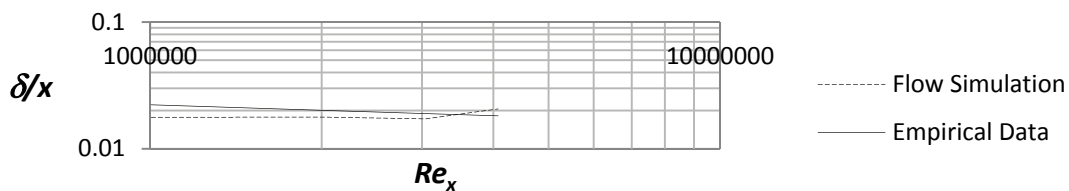

Figure 2.30b) Boundary layer thickness for turbulent boundary layers at  $Re_x = 10^6 - 4.1 \cdot 10^6$
Place the file “xy-plot figure 2.30b)” into the **Local Disk (C:)/Program Files /SolidWorks Corp/SolidWorks Flow Simulation/lang/english/template/XY-Plots** folder to make it available in the **Template** list. Repeat step 24 and choose the sketch  $x = 0.2, 0.4, 0.6, 0.8$  m and check the box for **Velocity (X)**. Rename the xy-plot to **Turbulent Boundary Layer Thickness**. An Excel file will open with a graph of the boundary layer thickness versus the Reynolds number, see figure 2.30b).